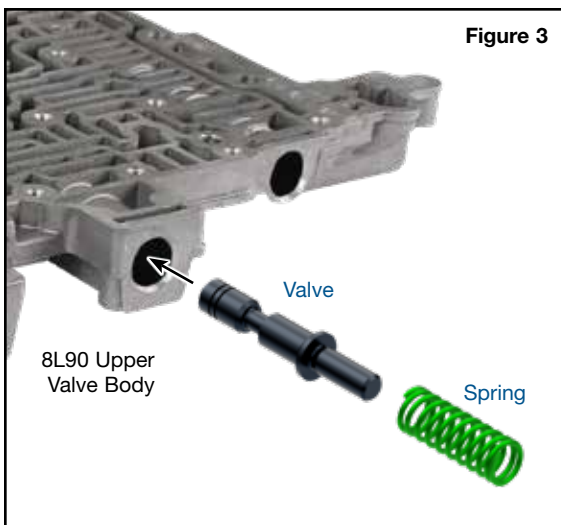

Figure 3
- Install Sonnax valve (**Figure 3**).